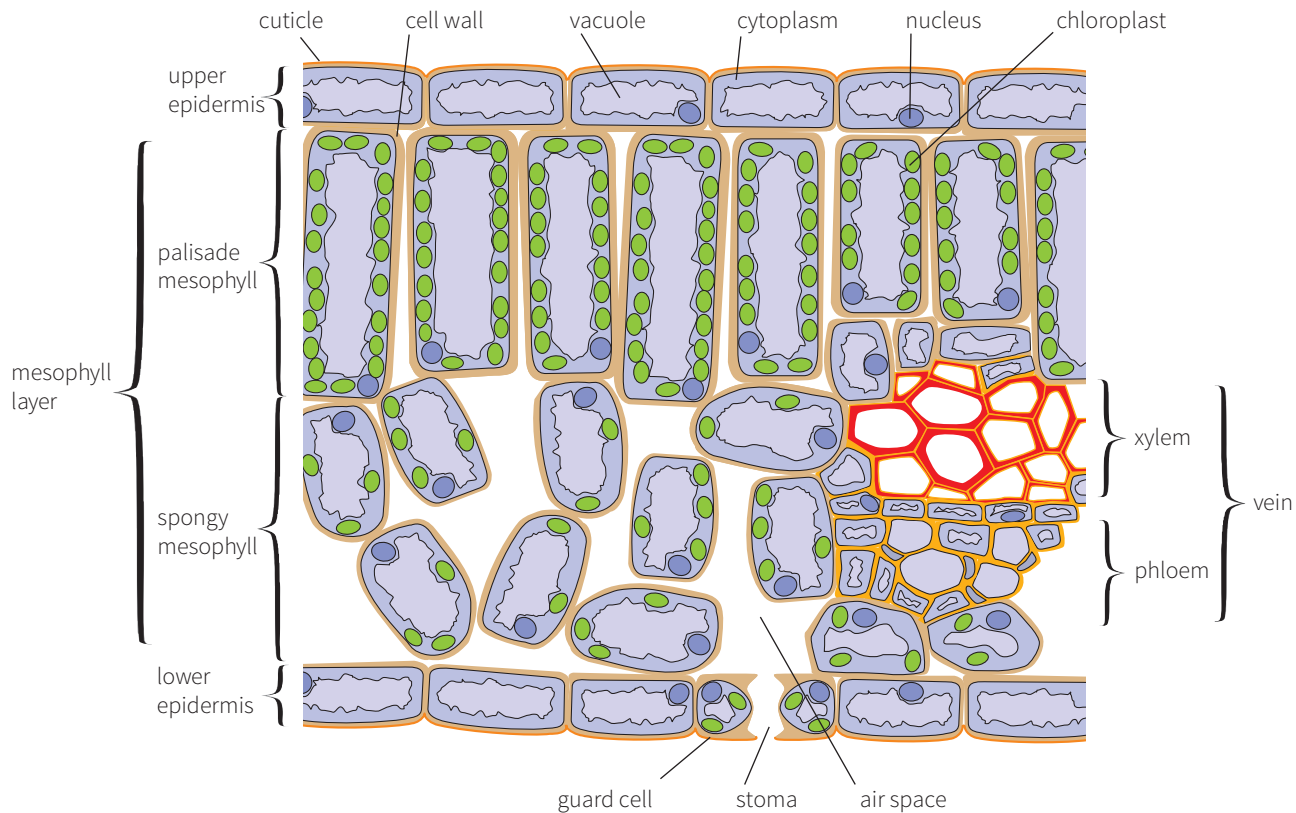

Figure B4.02 Transverse section through a small part of a leaf.
Although a leaf looks thin, it is in fact made up of several layers of cells. You can see these if you look at a transverse section (TS) of a leaf under a microscope (Figure B4.02, and Images B4.01 and B4.02).
The top and bottom of the leaf are covered with a layer of closely fitting cells called the **epidermis** (Figures B4.02 and B4.03, and Image B4.03). These cells do not contain chloroplasts. Their function is to protect the inner layers
Image B4.02 This photograph was taken using a light microscope. It shows a transverse section of a leaf from a tea plant. Can you identify all the different layers of cells labelled in Figure B4.02?
The middle layers of the leaf are called the **mesophyll** ('meso' means middle, and 'phyll' means leaf). These cells all contain chloroplasts. The cells nearer to the top of the leaf are arranged like a fence or palisade, and they form the **palisade mesophyll**. The cells beneath them are rounder, and arranged quite loosely, with large air spaces between them. They form the **spongy mesophyll** (Figure B4.02).
The cells which need the carbon dioxide are the mesophyll cells, inside the leaf. The carbon dioxide can get into the leaf through the stomata. It does this by diffusion, which is described in Chapter B2. Behind each stoma is an air space (Figure B4.02) which connects up with other air spaces between the spongy mesophyll cells. The carbon dioxide can therefore diffuse to all the cells in the leaf. It can then diffuse through the cell wall and cell membrane of each cell, and into the chloroplasts.